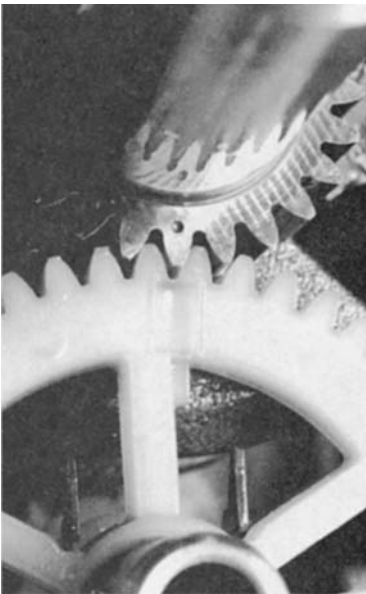

FIG. 8-11. *Mechanics soon learn to verify original valve timing before the camshaft is disturbed.*
17. Check the timing as an assembly reference (Fig. 8-11). Unlike other engine makers, Briggs & Stratton does not index timing mark alignment with top dead center (tdc) on the compression stroke.